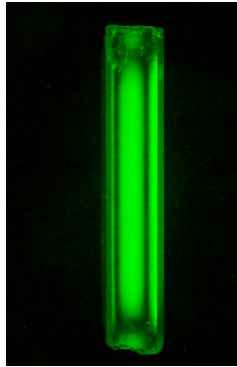

Figure 3. Black (Zero-Order) Fringes in a Glass Slice as seen through SWF-100 filter.
3. Move the SWF-100 filter to view the point of interest. The zero order (black) fringe will appear. (Figure 3)